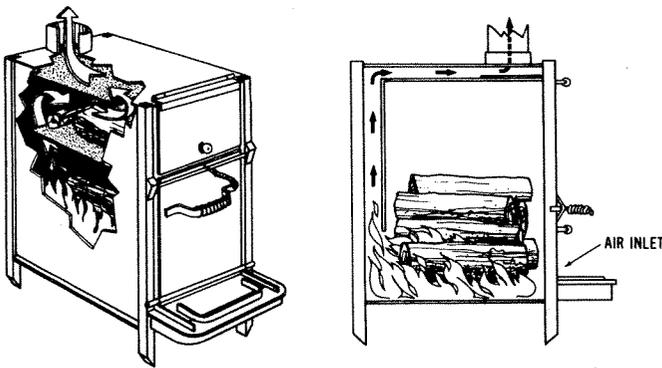

Fig. 63. Greenwood (left) and Double Dynamite (right).
2. **The Dam Site Stove Co.** (manufacturer), R.D. No. 3, Montpelier, VT 05602. All models have baffles, but the flow pattern is horizontal, not as in Scandinavian models. The horizontal baffle creates an upper chamber for storing wood or smoking meat. The Double Dynamite furnace can hold 7 cubic feet of wood which slowly feeds down to the fire, as in Riteway stoves. See Fig. 63 and Table 7. Discounts are available.